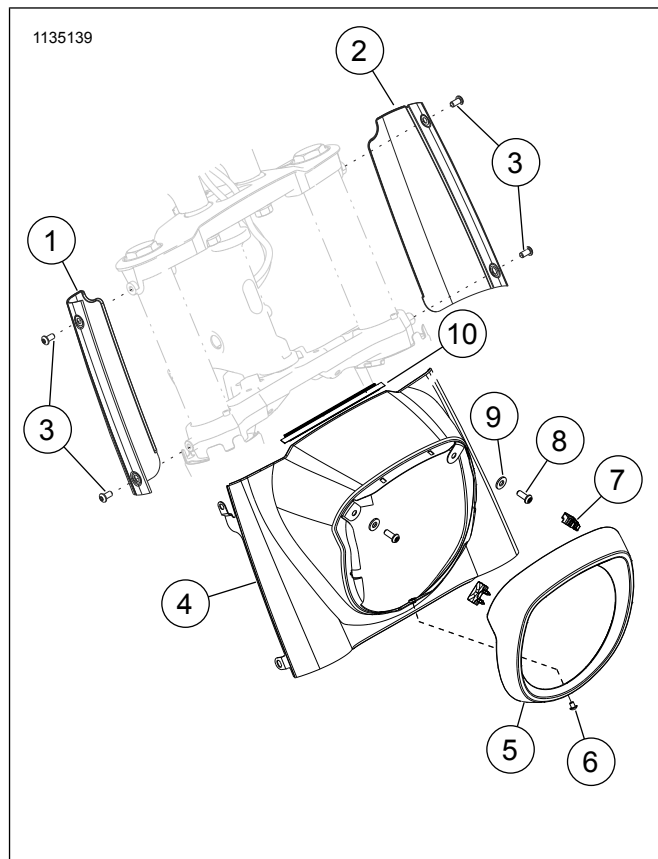

Figure 2. Service Parts: Headlamp Nacelle Kits
See Figure 2 and Table 1.
1. See Figure 2. Remove trim ring screw (6) and trim ring (5).
3. See Figure 2. Install the headlamp trim ring assembly (5) with screw (6). Ensure isolators (7) and rubber gasket are properly seated. Tighten.